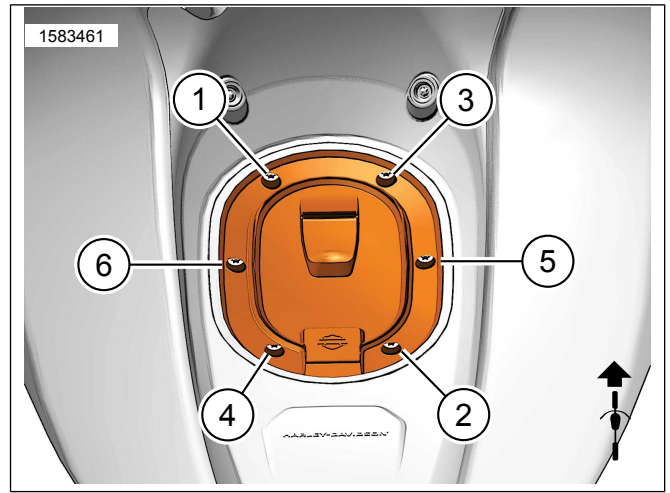

Figure 10. Oval Locking Fuel Cap Installed / Torque Sequence
8. See Figure 10. Torque screw in sequence. Tighten.